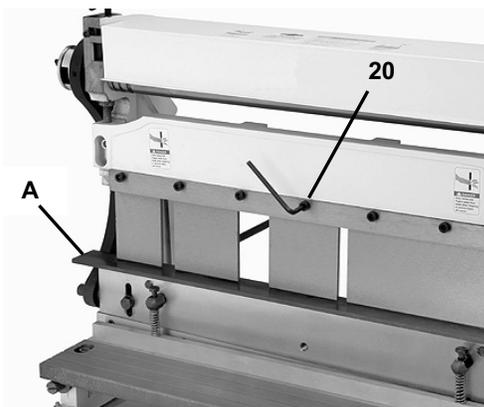

Figure 12-2
1. Place a thin and flat piece of spacer material (A) over the notch of the brake die. This flat surface will help you obtain equal finger length.
3. Loosen, but do not remove, the six cap screws (#20) shown in fig 12-2